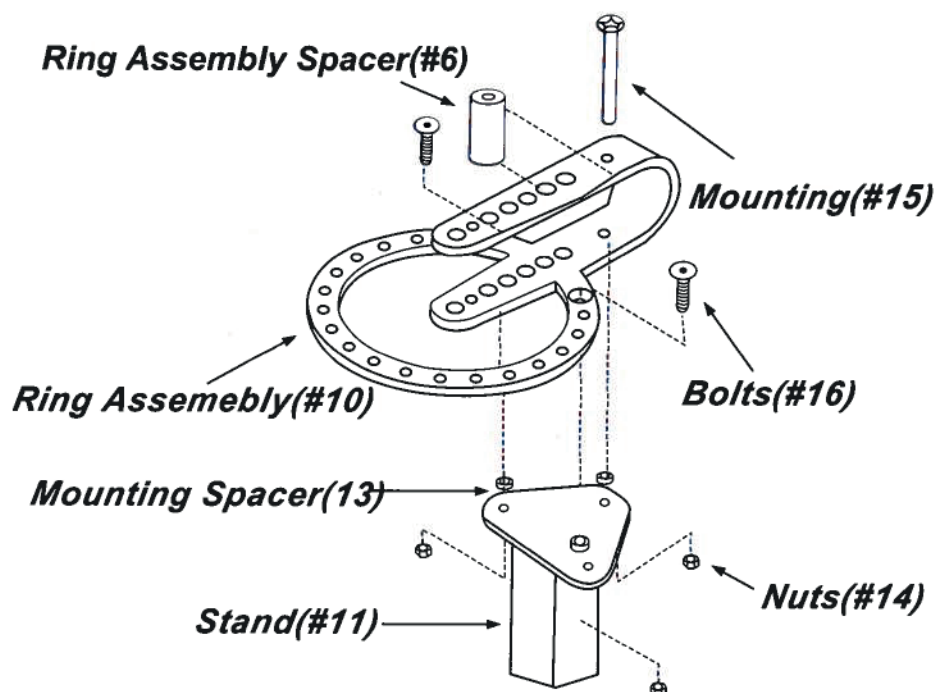

Figure1 – Assembly
- Step 2: Place the three mounting spacers (#13) over the three holes on the top of the STAND as shown in Figure 1